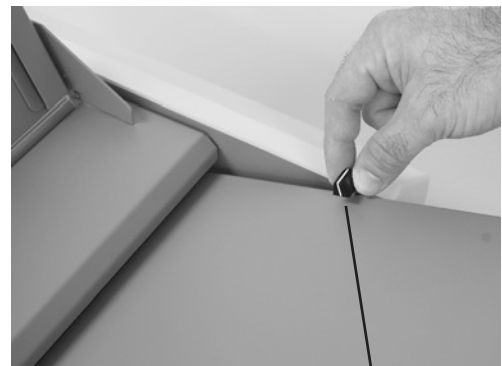

Fig. 2
2. Lock the fold table into position (FD38X Only) (Fig. 2)